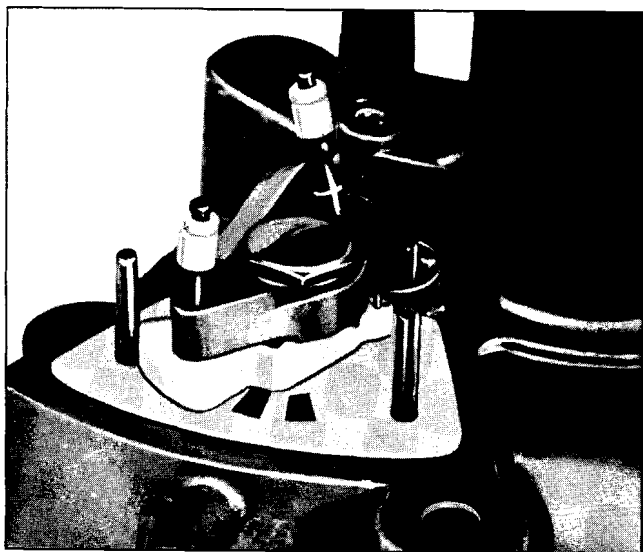

Fig. 4-46 Installing Distributor Arm
5. Install distributor valve bushing, washer, distributor arm assembly, washer and secure with screw (Fig. 4-46). Tighten screw to 12 lb. in. torque.